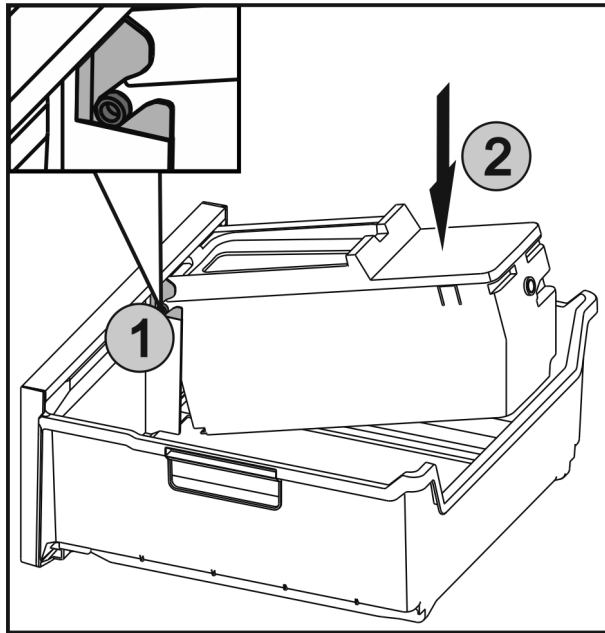

Fig. 50
- ▶ Push the axles Fig. 50 (1) on the EasyTwist-Ice into the guides and push the rear side Fig. 50 (2) until the lugs engage.